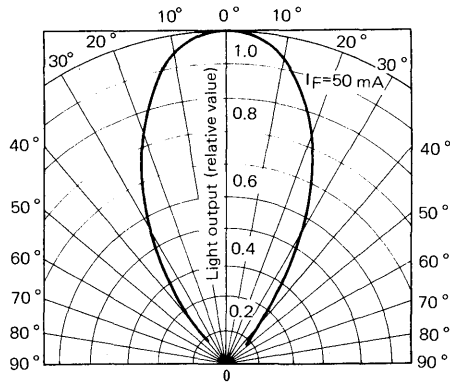

Fig. 1 Light Output Power Distribution
2.1 SE303A is an infrared LED of GaAs crystal material made by the liquid phase epitaxial growth, developed as mainly a TV remote control light emitting source and is characterized by the peak emission wave length $\lambda_p \approx 940$ nm and a little degradation output. This SE303A features high output and wide directional angle required for the light source of TV remote control system. Table 1 shows absolute maximum ratings and electro-optical characteristics of SE303A. Fig. 1 shows the directional pattern of SE303A. The directional angle pattern shows how the light output power would become when it deviates from the optical axis to a certain degree if the light output power on the optical axis is assumed to be 1.0. Half-power angle, which is the angle at which the relative value of the light output becomes 0.5, is used for representing the extent of directional angle and the half-power angle of the SE303A is set at approx. 25 °C to 26 °C.